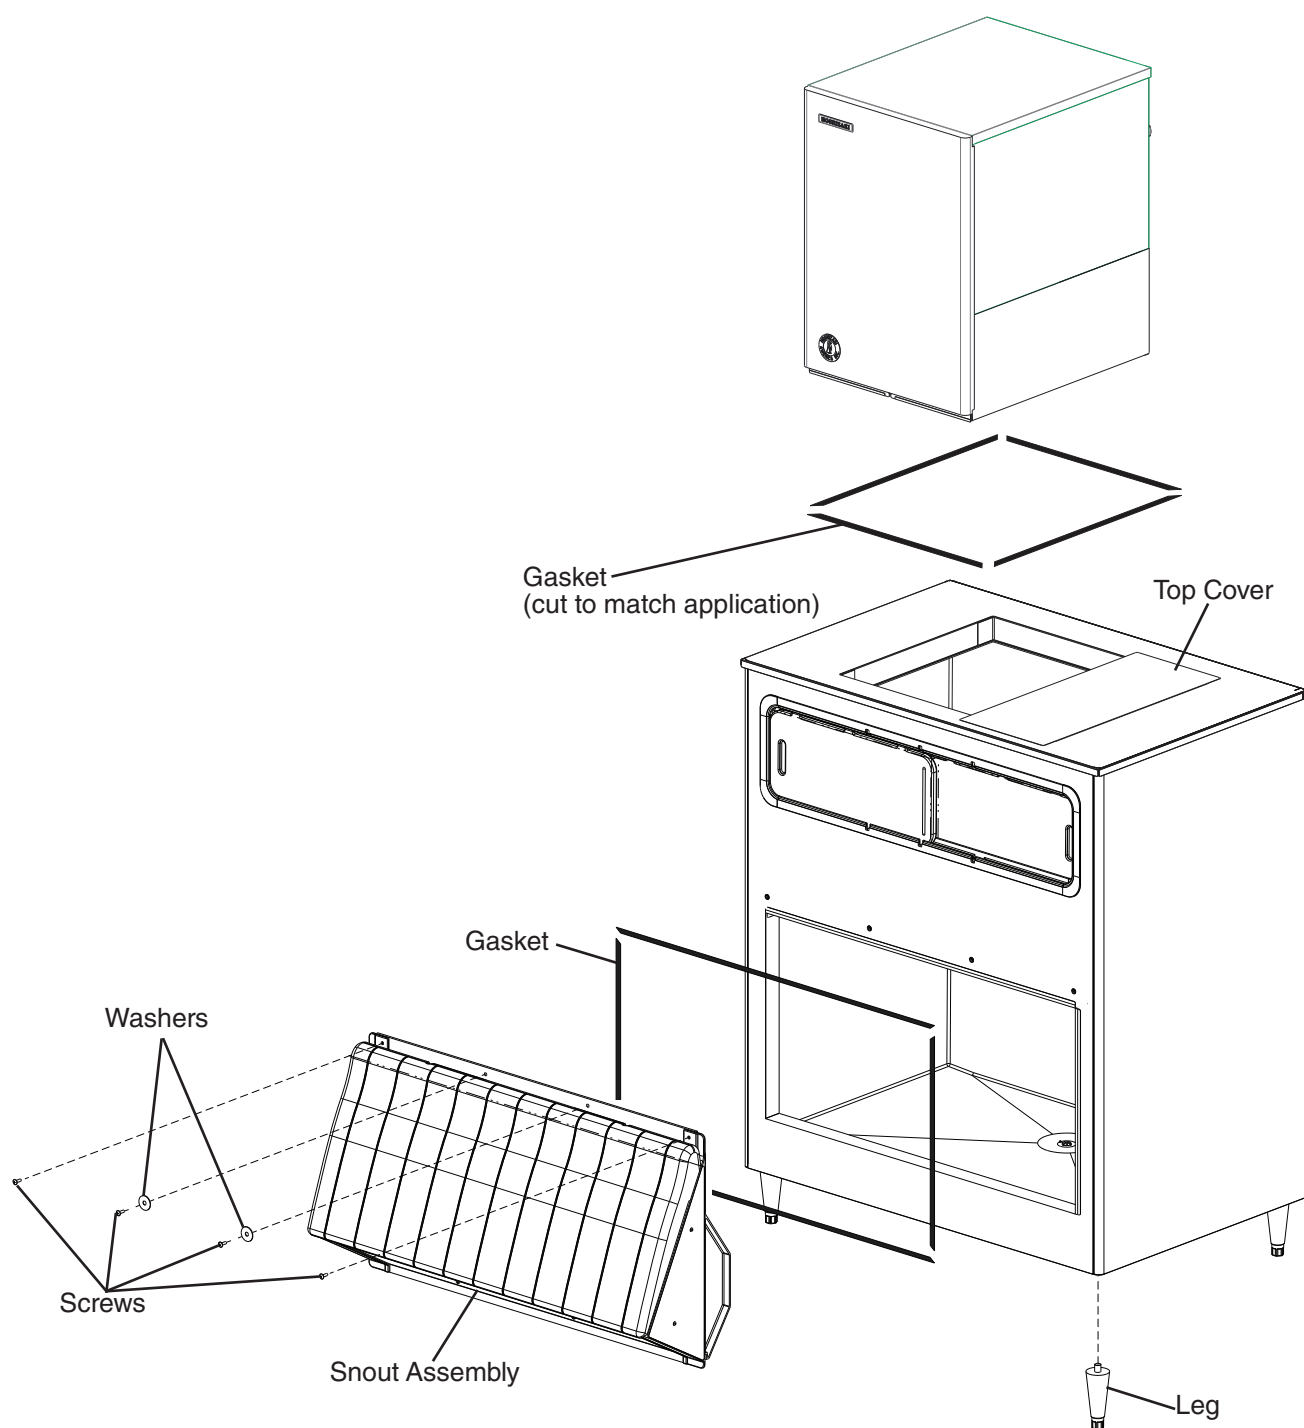

Fig. 1
- 10) Use the 4 screws and 2 washers (included) to secure the snout assembly to the ice storage bin. Place the 2 washers in position as shown in Fig. 1.